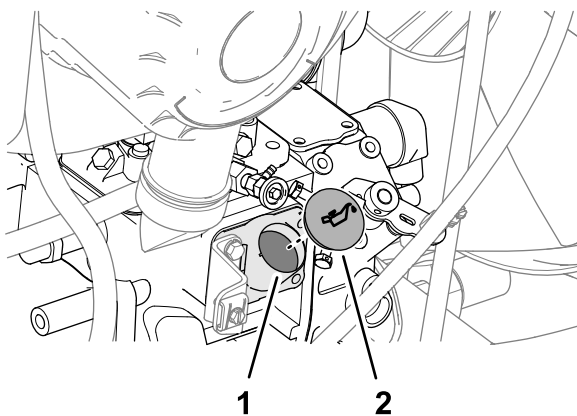

Figure 79
5. If the oil level is low, at the right side of the engine—remove the oil-fill cap (Figure 79) and gradually add small amounts of oil, checking the level frequently, until the level reaches the Full mark on the dipstick.